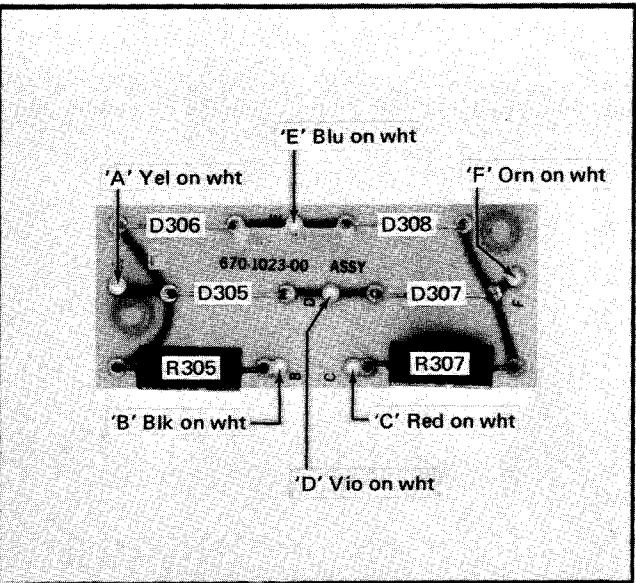

Fig. 4-5. Component locations and wiring color codes on 2 kV Bridge circuit board.
4. To replace the board, reverse the order of removal. Correct location of the pin connectors is shown in Figs. 4-5 through 4-26. Replace the pin connectors carefully so they mate correctly with the pins. If forced into place incorrectly the pin connectors may be damaged.
3. Reconnect the pin connections to the proper pins (see Figs. 4-5 through 4-26).